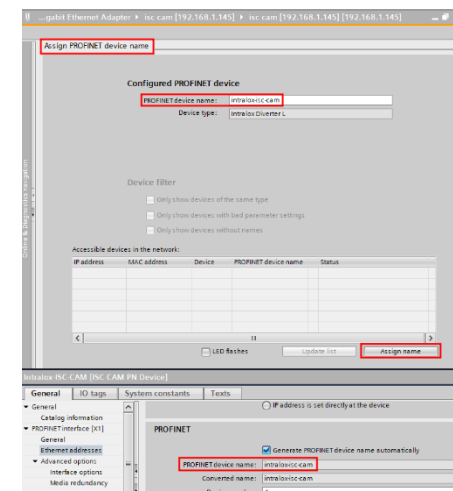

Figure 13: Configure Profinet Device Name for ISC CAM
24. Can also verify connected ISC CAM device by selecting the “LED flashes” check box to the left of “Assign name” in Figure 13.
28. Scroll down to “Assing PROFINET device name” and enter “PROFINET device name” which matches the project, the click “Assign Name, Figure 13.